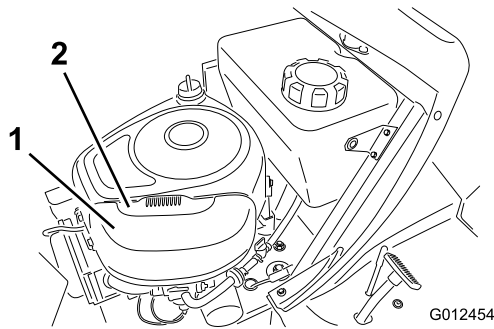

Figure 22
2. Pull up on the air cleaner cover handle and rotate it toward the engine (Figure 22).